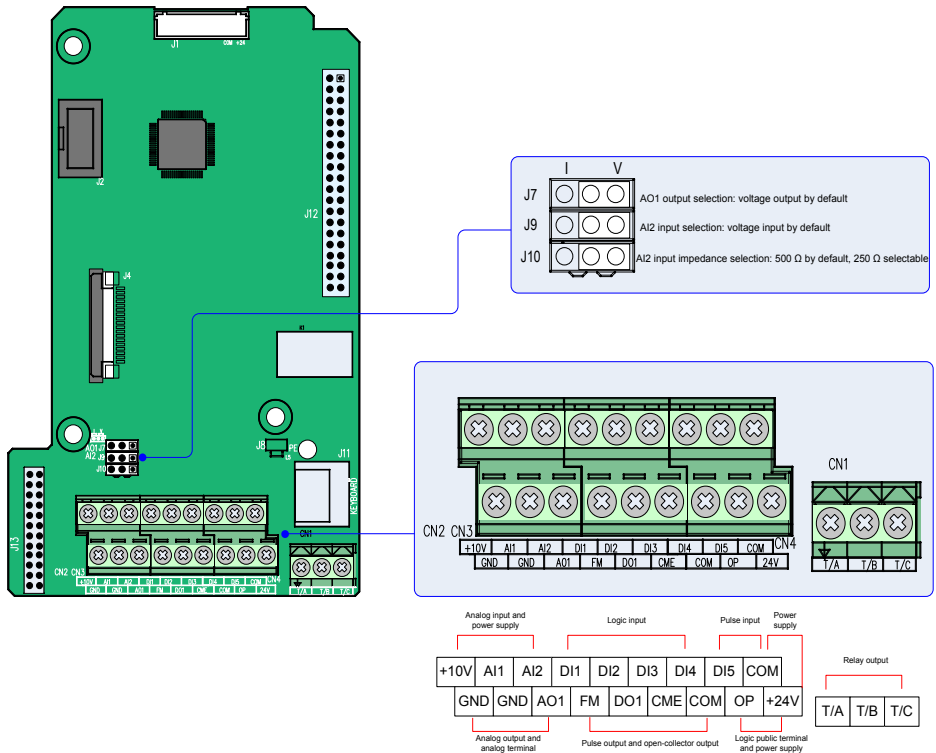

Figure 3-57 Control circuit terminal arrangement
- <3> For positions of jumpers J7, J9 and J10, see Figure 3-57.